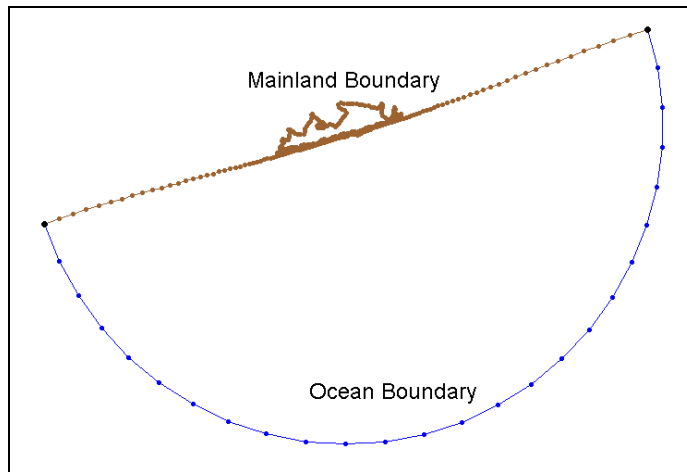

Figure 17-1 Feature Arcs after boundary types have been assigned.
2. Double click the arc representing the ocean boundary, shown in Figure 17-1.
5. Repeat this process for the coastline arc, but make sure the boundary type is set to *Mainland*, as shown in Figure 17-1.